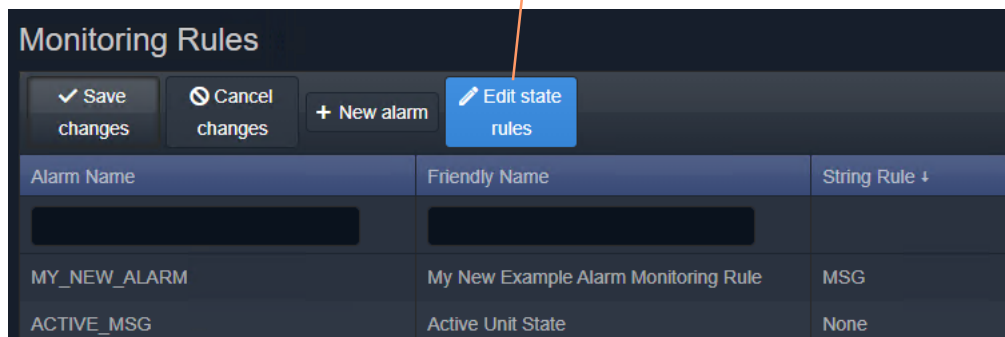
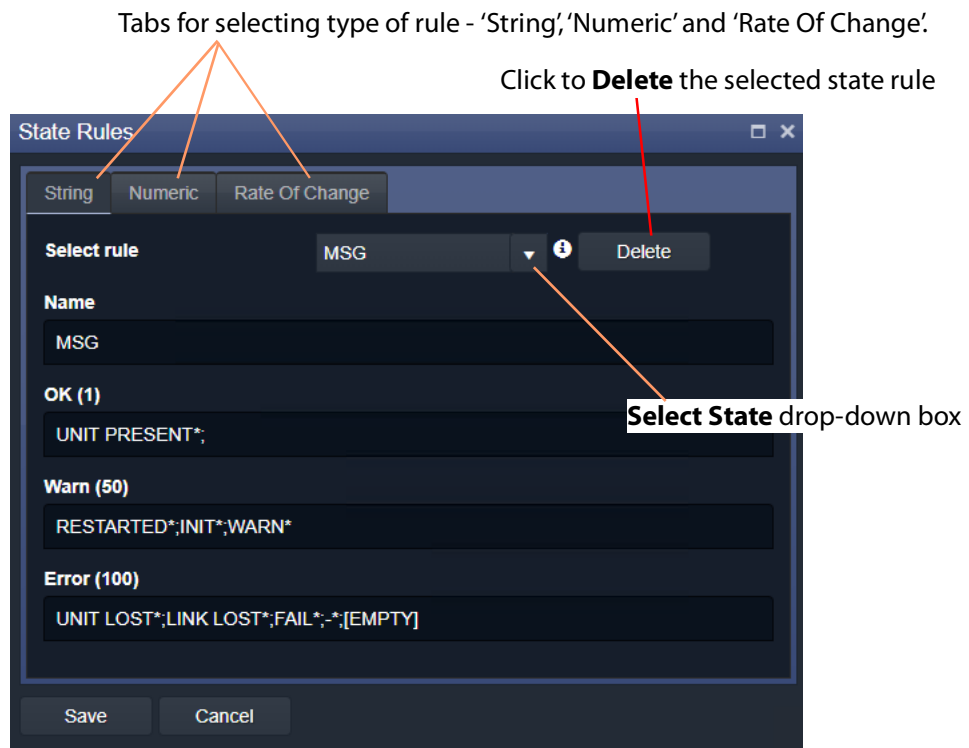

Figure 77: Edit State Rules Button
Figure 78: State Rules Dialog
- 1 Click **Edit State Rules** in the **Monitoring Rules** configuration screen, see Figure 77. The **State Rules** dialog is shown, see Figure 78.